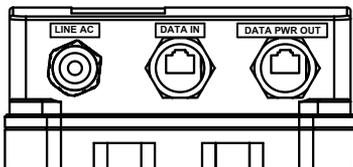

Fig 2
4. Ligue o cabo Ethernet a DATA IN. Ver fig. 2.